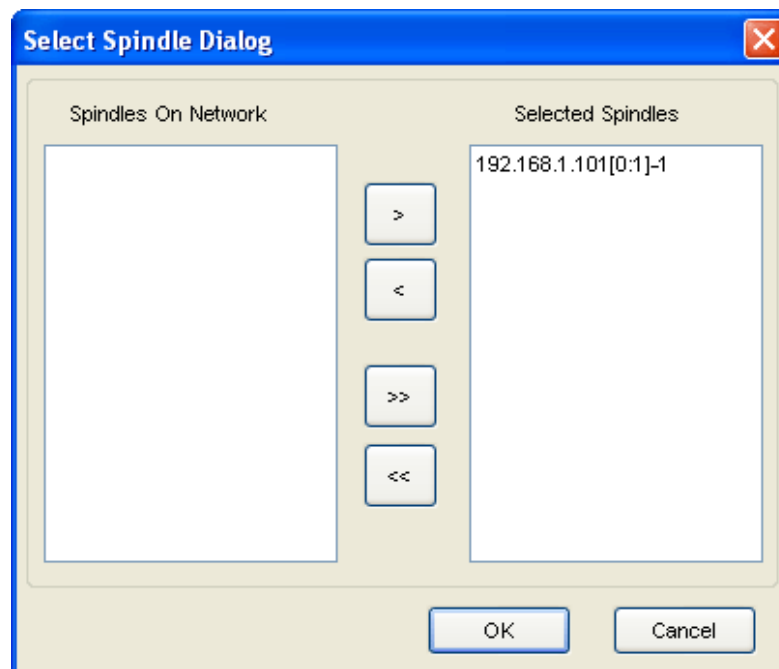

Figure 38 – Select Spindle Dialog
1. Click the **Filter** button on the **Runmain View All** screen to display the **Select Spindle Dialog** screen shown in Figure 38.